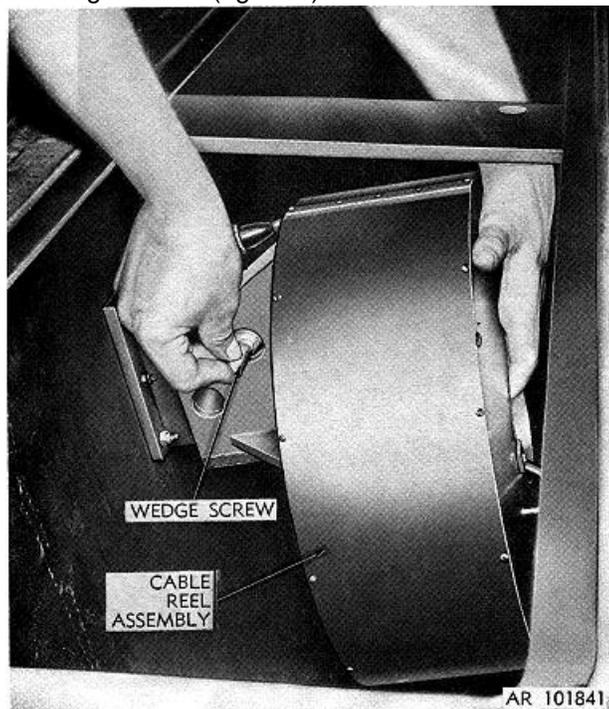

Figure 2-8. Removing wedge screw.
f. Lift cable reel assembly, remove and set aside both wedge screws (fig. 2-8).